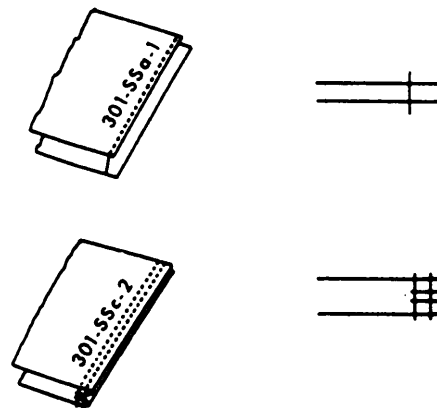

Figure 10-33.—Superimposed seam.
**Class SS, Superimposed Seams.**— These seams are formed by placing one ply of material above another with the edges together and the seam along one side. Superimposed seams are usually made with two plies of material, although more than two plies can be used for special projects. The edges may be folded under, but they are never overlapped when the stitching is made. Types of superimposed seams are SSa-1 and SSc-2, as shown in figure 10-33.